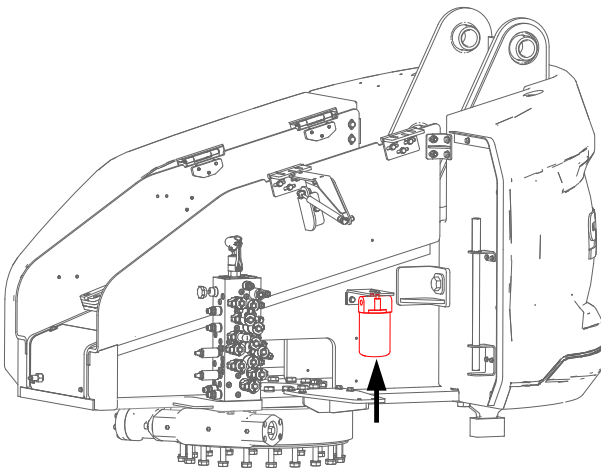

Figure 5-7
3. As indicated by the arrow Fig 5-7 , page 5-14, insert 0.04mm feeler gauge in between the bolt and washer.
3. As indicated by the arrow **Fig 5-7 , page 5-14**, insert 0.04mm feeler gauge in between the bolt and washer.
6. As indicated by the arrow **Fig 5-7 , page 5-14**, insert 0.04mm feeler gauge in between the bolt and washer.